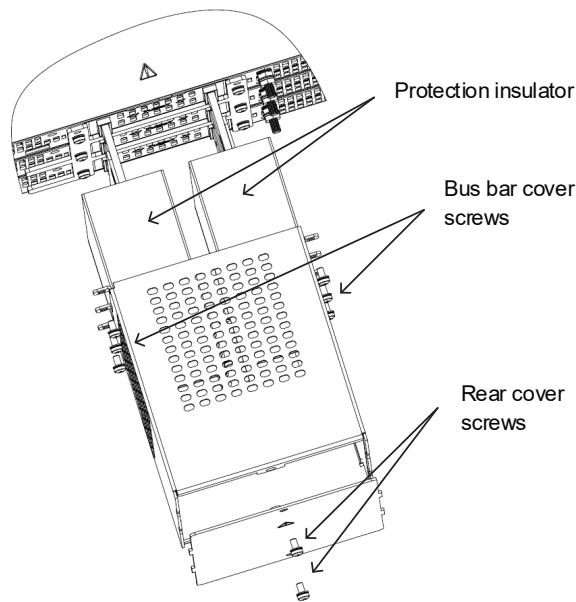

Figure 4-60: Disassembly of Output Protection
1. Open the output protection assembly by unscrewing bus bar cover and rear cover screws as shown in Figure 4-60 (15kW is shown, it applies to 10kW as well. For 10kW, there are 4 Bus bar cover screws only).
2. Disassemble Protection insulator as shown in Figure 4-60 (15kW is shown, it applies to 10kW as well).